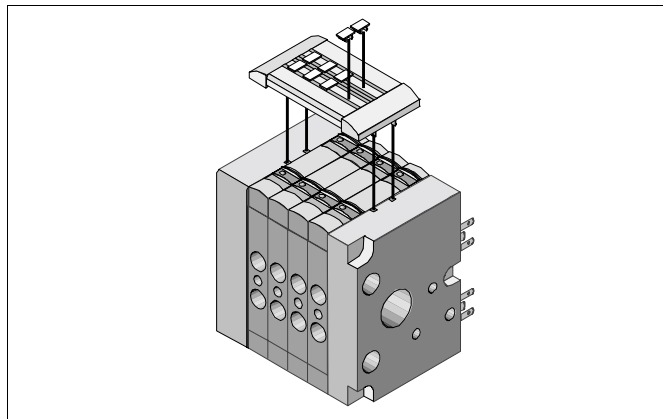

Fig. 2/13: Fitting the designation support
- Press the designation clips into the recesses on the designation support (see Fig. 2/13).